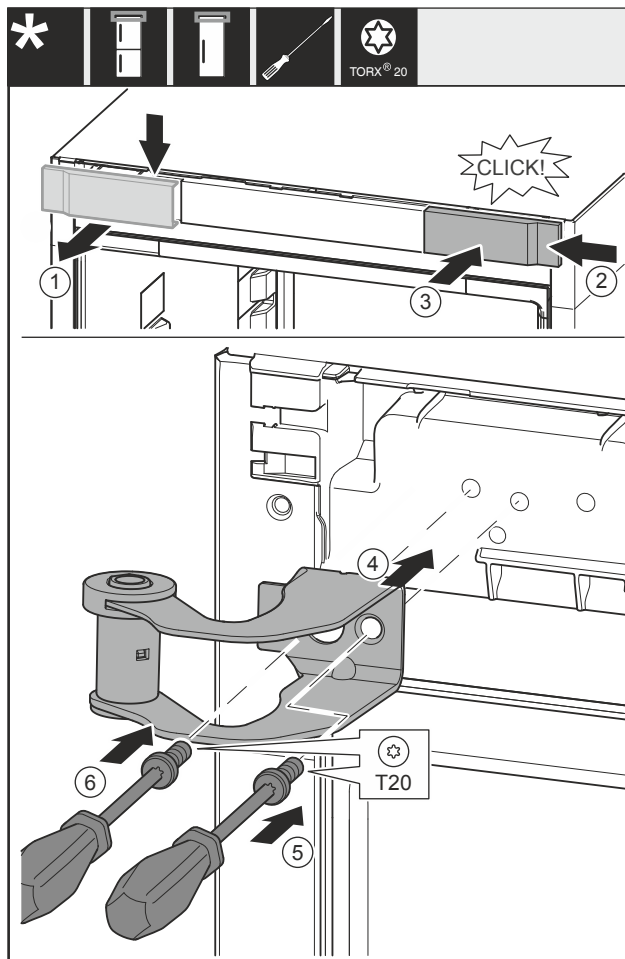

Fig. 12
- Remove the cover Fig. 12 (1) from above towards the front.
- Turn the cover Fig. 12 (2) by 180° and attach to the other side from the right.
- Engage the cover Fig. 12 (3).
- Place the top swap bearing block Fig. 12 (4).
- Screw the screw Fig. 12 (5) tight.
- Screw the screw Fig. 12 (6) tight.